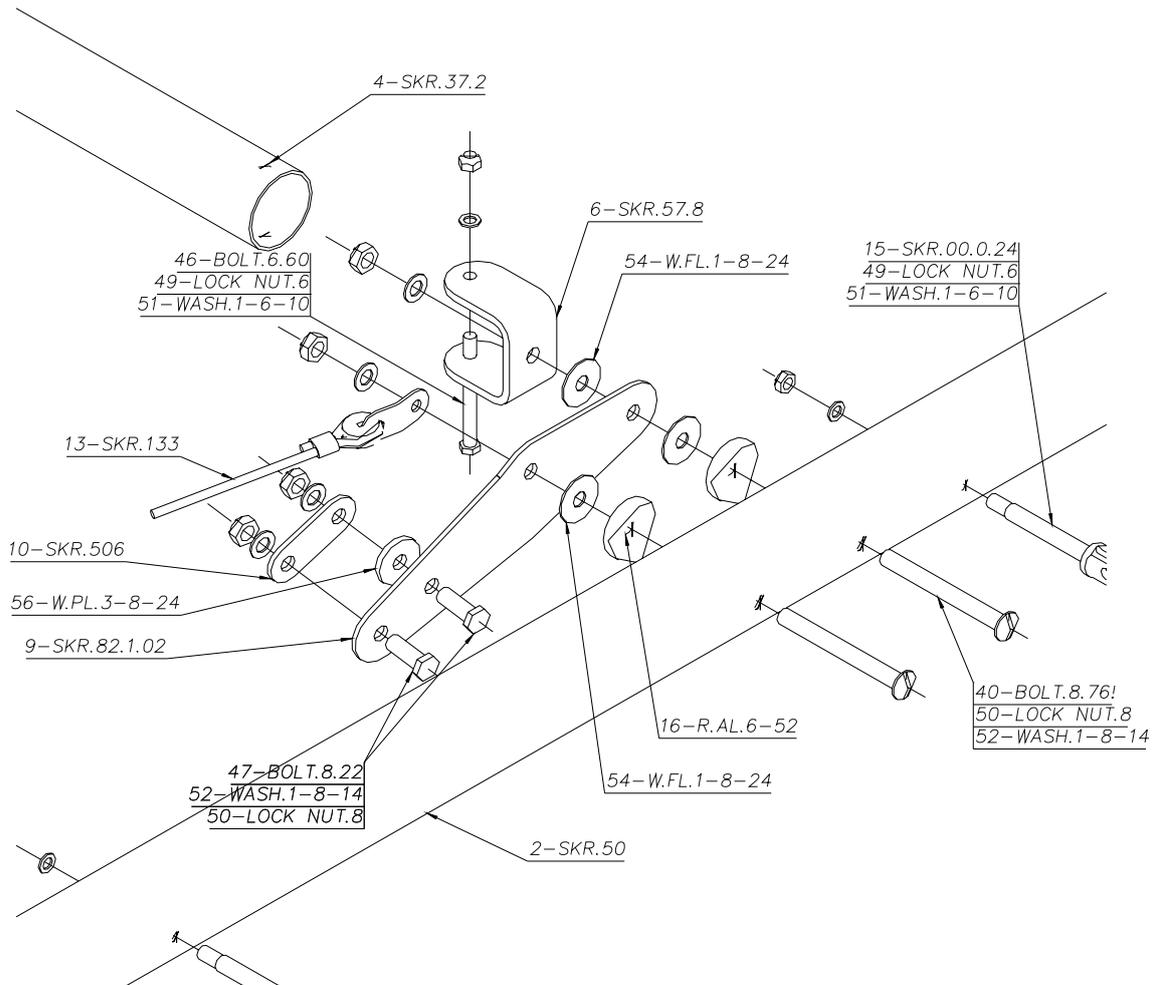

Figure 151; rear lift strut attachment.
- f) Use another round **tu37** tube to join the leading and trailing edges at the lift strut location, , Figure 149, Figure 151 and Figure 148.